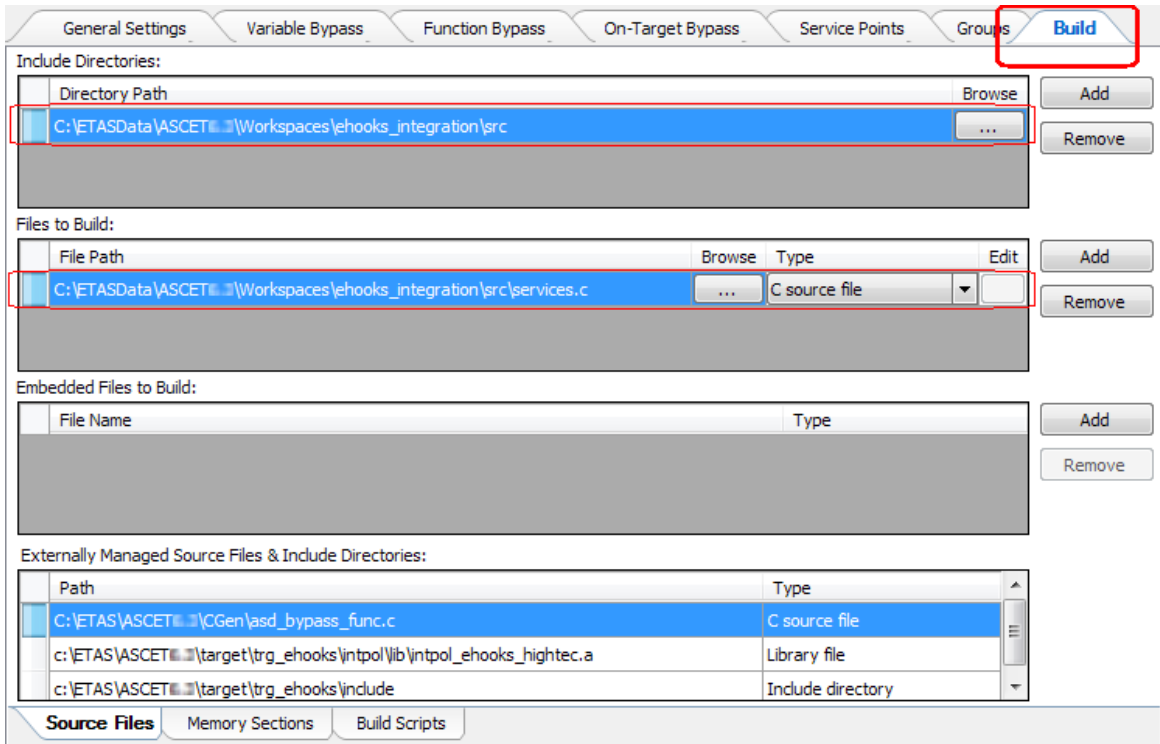

Figure 7.5: Adding a source file to the EHOOKS build
- Add the path(s) to the include directories and the names of the source files and/or library files for your arithmetic services to the EHOOKS build as shown in Figure 7.5 on page 59.
4. Add the include path, source files and/or library files for your interpolation routines to the EHOOKS build as shown in Figure 7.5 on page 59.